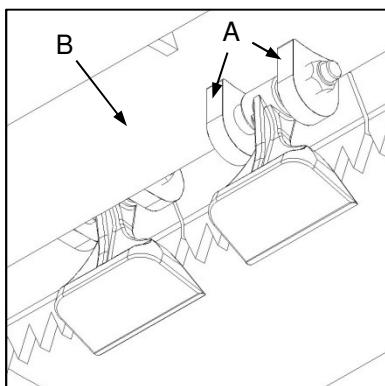

Fig. 7
- ✓ Check blade mounting lugs (Fig. 7-A) for signs of wear, distortion, elongation or fractures. Severe wear or damage to the blade mountings may necessitate replacement the complete rotor (Fig. 7-B).
- ✓ Gaan lemmonteeringskloue (Fig. 7-A) na vir tekens van slytasie, verwrinking, rekking of krase. Ernstige slytasie of beskadiging aan die lemmonteerstukke mag vervanging van die hele rotor noodsaak (Fig. 7-B).